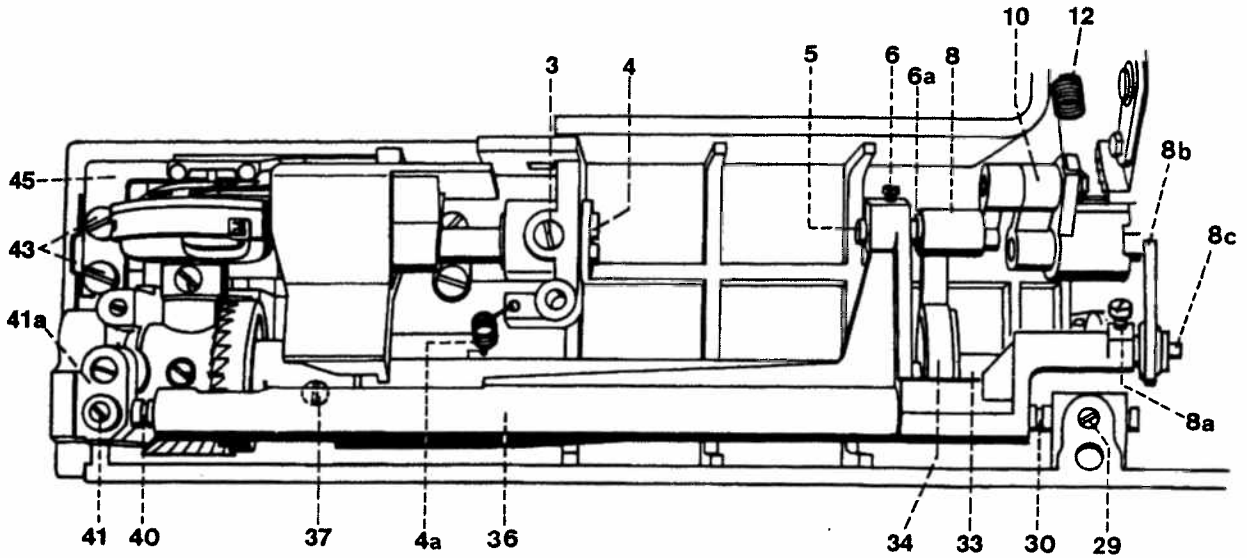

Fig. 40b
- Remove the complete connecting bar 34 from actuating crank 19 (fig. 40b).
- Remove screw 41a at the sewing hook bearing and push the latter fully to the left (fig. 40b).
- Insert screw 41a and fasten the hook bearing (fig. 40b).